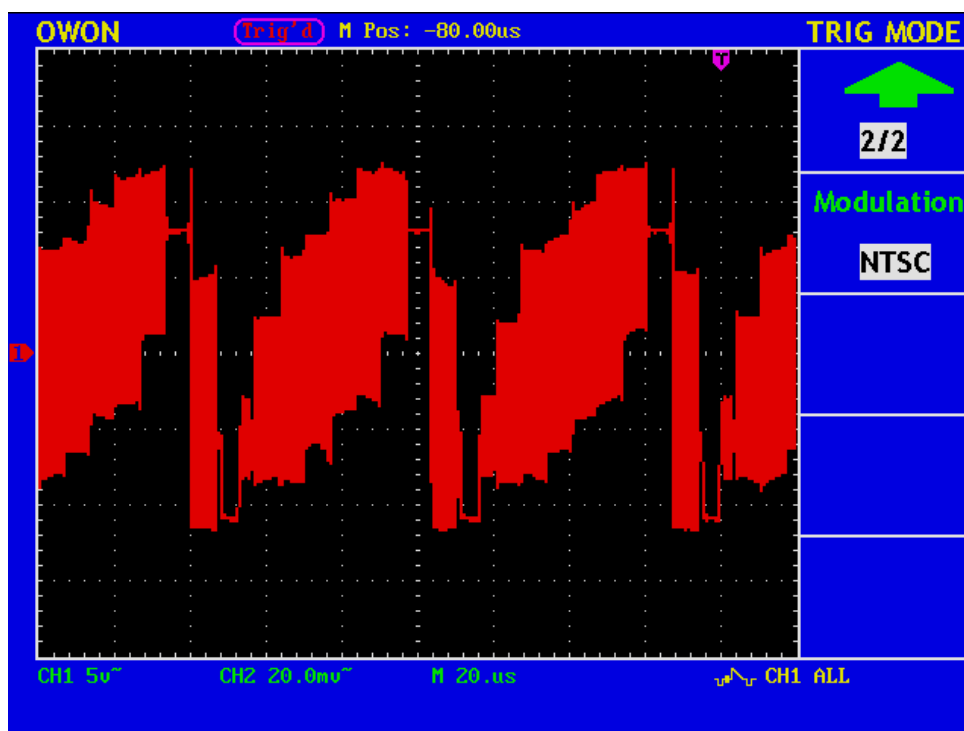

Fig. 38 Video line trigger Oscillogram(the second menu)
- 6、 Press F2 to chose modulation as “NTSC” (refer to Fig. 38)